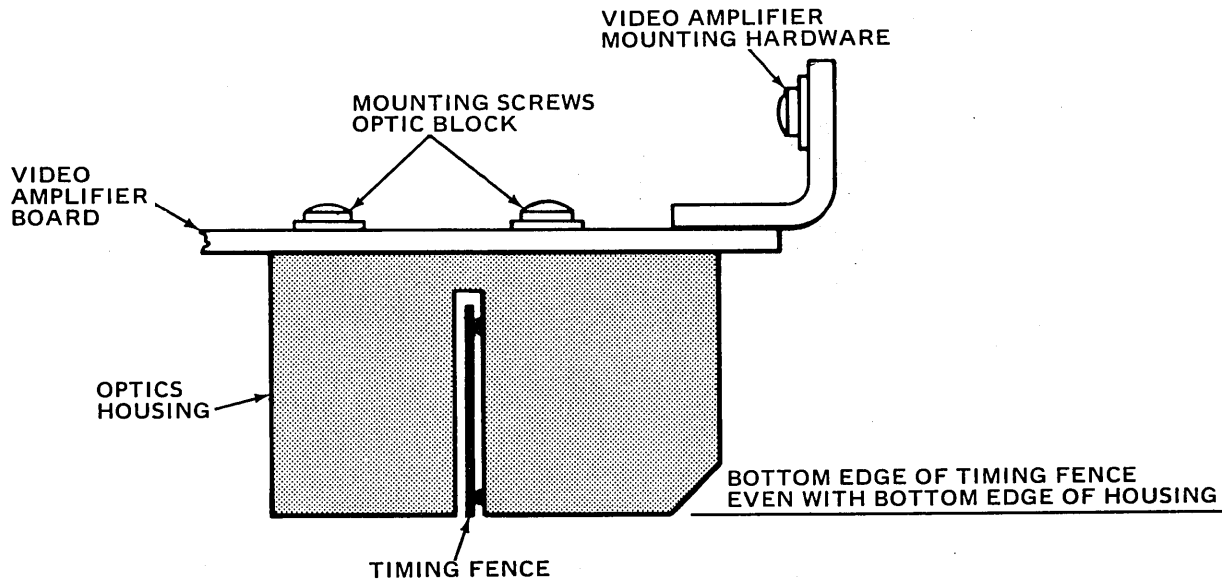

Figure 5-7. FENCE ADJUSTMENT AND OPTIC HOUSING
1. Centering of Timing Fence in Slot of Optical Pickup (Fig. 5-7)
- a. Make sure fence is positioned in center of housing slot (Fig. 5-7).
- b. If required, loosen mounting screws on video amplifier board (Fig. 5-7) and adjust optical housing so that fence is positioned in center line of the housing slot. Tighten screws.
- c. Make sure that when the timing fence is positioned in the center line of the slot, the bottom of the fence is in the same plane with the bottom surface of the optical pickup housing (Fig. 5-7).
- d. When conditions have been met at para. C.1.(a) through C.1.(c), tighten mounting screws and washers on video amplifier board (Fig. 5-7).